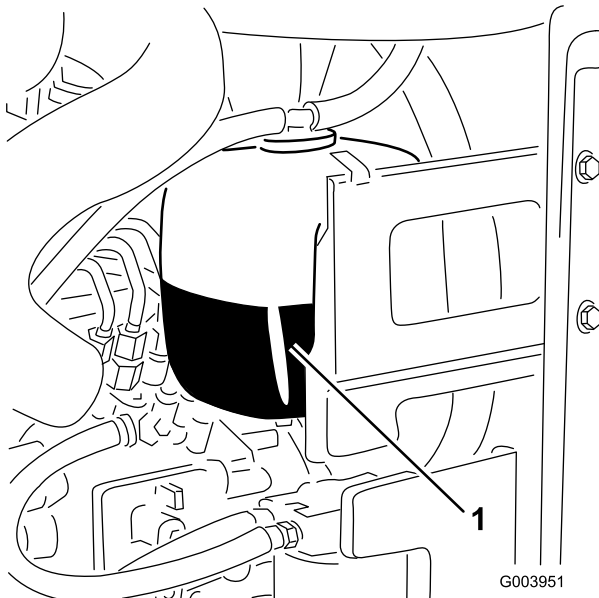

Figure 15
1. Check the level of coolant in the expansion tank (Figure 15).